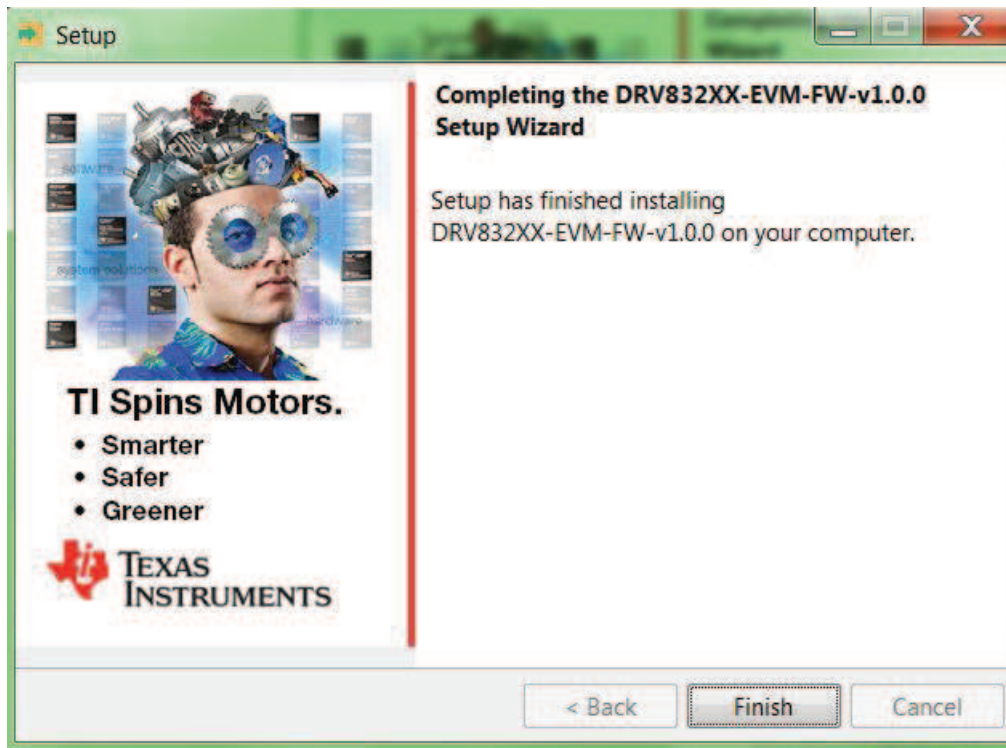

Figure 20. Firmware Setup Complete
Step 10. Click the *Finish* button when the files are successfully installed in the destination folder (see Figure 20).